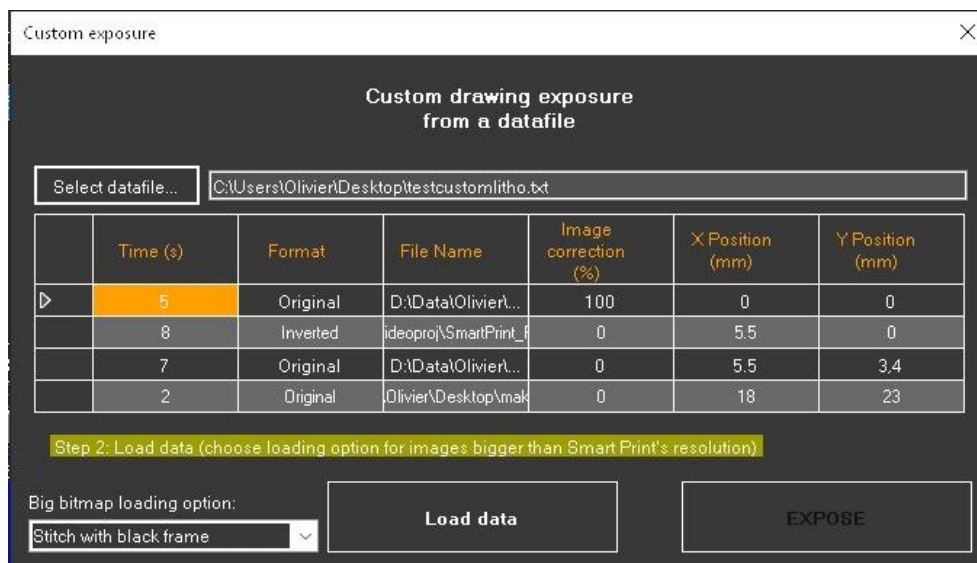

Figure 43 – Custom exposure: parameter file loaded
- If the parameter file contains no mistakes (drawing not found, unknown characters, etc.), the file will load on the window (Figure 43)